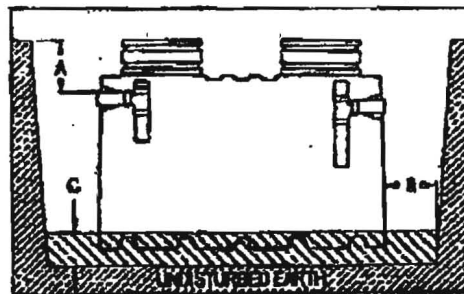

Figure 2.
2. Lid and Manhole Extension [Figure 2]